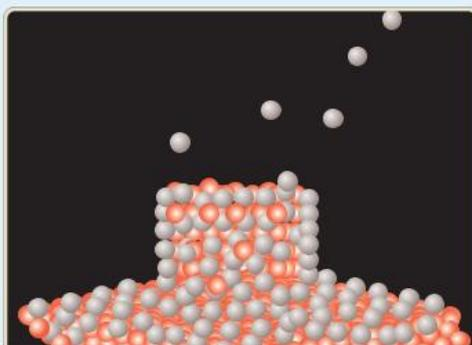

FIGURE 2 Atoms being added individually to a structure to create a very specific final molecule
- 2 Substances can be built by adding or substituting specific atoms in a structure, as shown in **Figure 2**. This also gives the final structure very specific properties. In this manner, chemicals and materials can be tailored for a specific purpose, as can be seen in **Figure 3**.